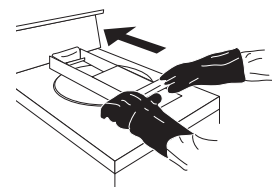

FIGURE 12
- C. Then with the lid in the lowered position, use one hand to move handlebar to open (figure 12)